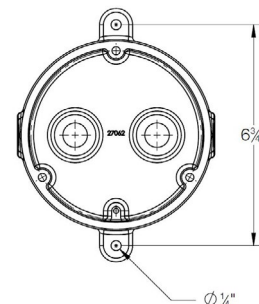

Figure 2: Direction of illumination - mounting plate from bottom
3. Establish proper foundation for wiring box. Use mounting holes provided on wiring box flange (Figure 1) to anchor the wiring box to the foundation. Ensure that the wiring is oriented properly for the correct direction of illumination (Figure 2).